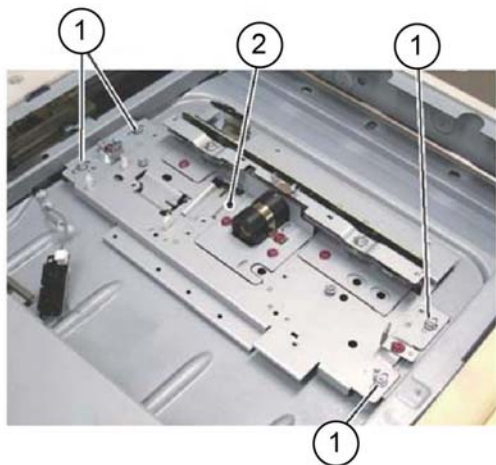

Figure 3 CCD lens assembly removal
5. Remove the CCD lens assembly, Figure 3:
- a. Remove four screws (1).
- b. Remove the CCD lens assembly (2).